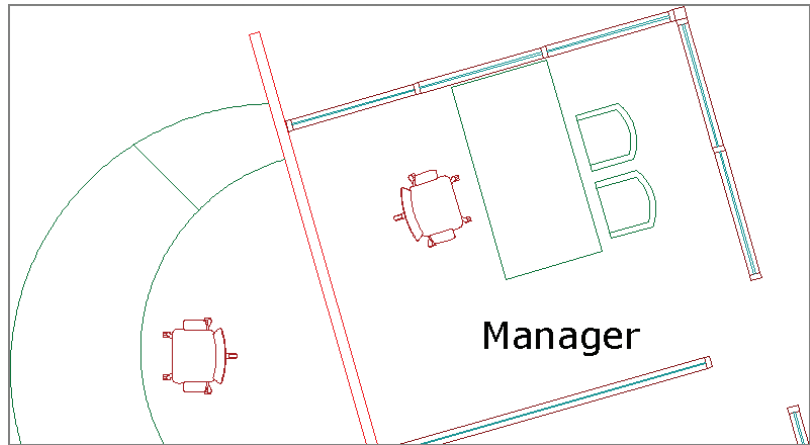

FIGURE 9.23 Inserting a chair from the tool palette
8. Click the TaskChair tool on the Furniture tool palette. Click the place where the manager's chair used to be, and then specify the rotation by clicking a second time. Click OK or Cancel to close the Edit Attributes dialog box that appears. Figure 9.23 shows the result.